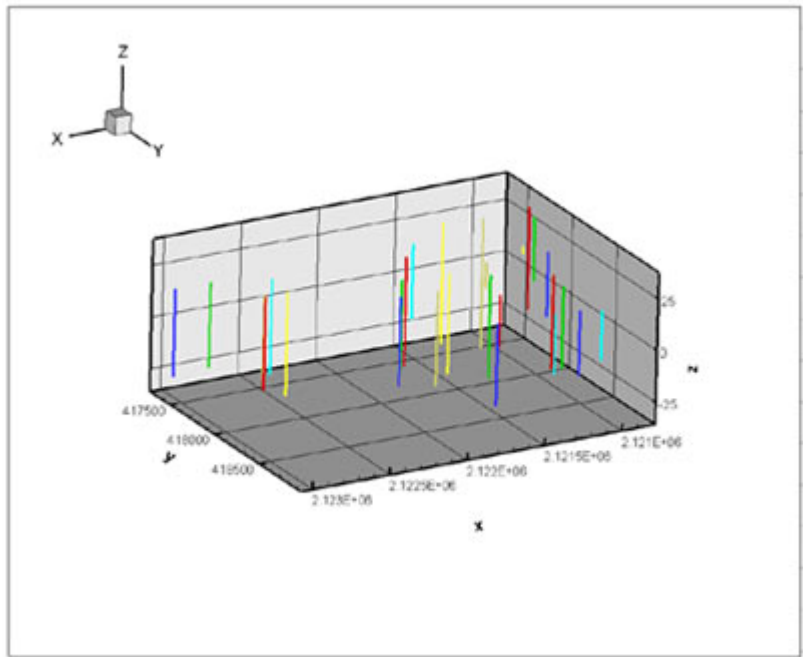

Figure 78. The Excel well data plotted in Tecplot 360.
3. Switch to 3D Cartesian plot mode to see the location and measurement depths of the well samples. The resulting plot is shown in Figure 78.